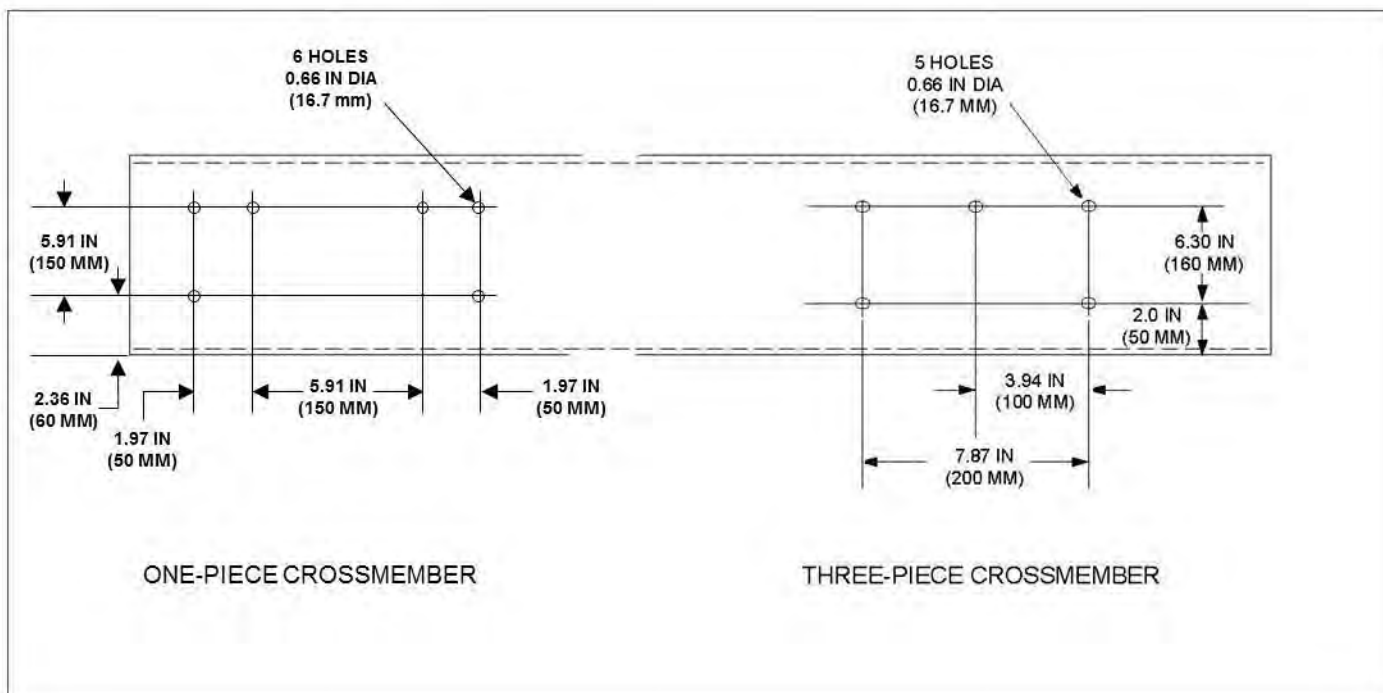
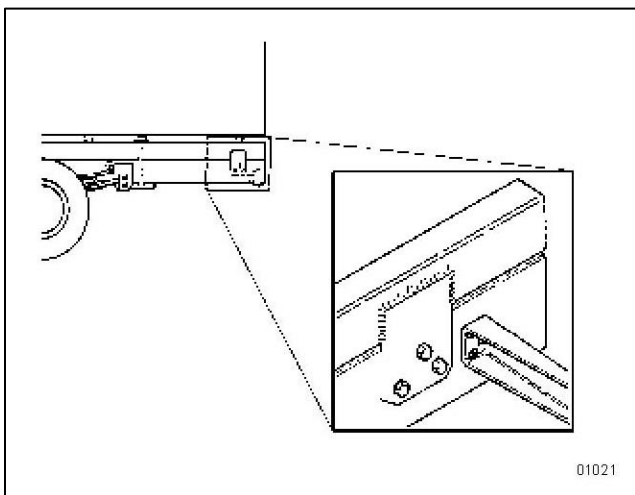

FIGURE 4-7. Crossmember Gusset Hole Patterns (Additional Holes Available in 50 mm Horizontal Increments)
FIGURE 4-11. Fishplate Bracket at Rear End of Body
When U-bolts are used to mount a body we recommend that the last body attachment be made with a “fishplate” bracket. See **FIGURE 4-11**. This provides a firm attaching point and helps prevent any relative fore or aft movement between the body and frame. For hole location guidelines, See **FIGURE 4-7**.
- The maximum allowable distance between the forward suspension crossmember and the next crossmember forward is 47.2 inches (1200 mm). If the distance exceeds 47.2 inches (1200 mm) after the wheelbase is lengthened, add a crossmember between them. See Figure 5-4. See Figure 4-7 on page 4-3 for crossmember hole patterns.